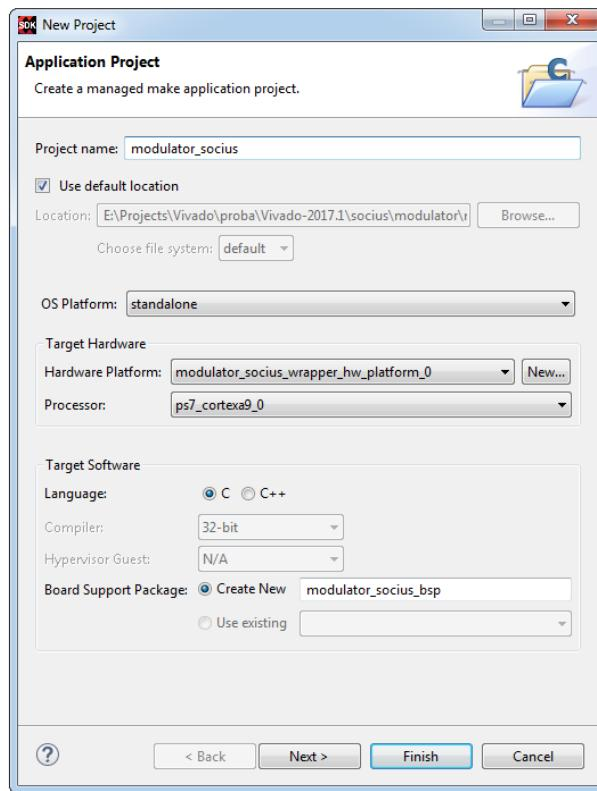

Figure 10.48: Application Project dialog box
17. Select **File -> New -> Application Project** and the **Application Project** dialog box will appear, see Figure 10.48.
18. In the **Project name** field, type a name of the new project, in our case it will be **modulator_socius**, leave all other parameters unchanged (as it is shown on the Figure 10.48) and click **Next**.